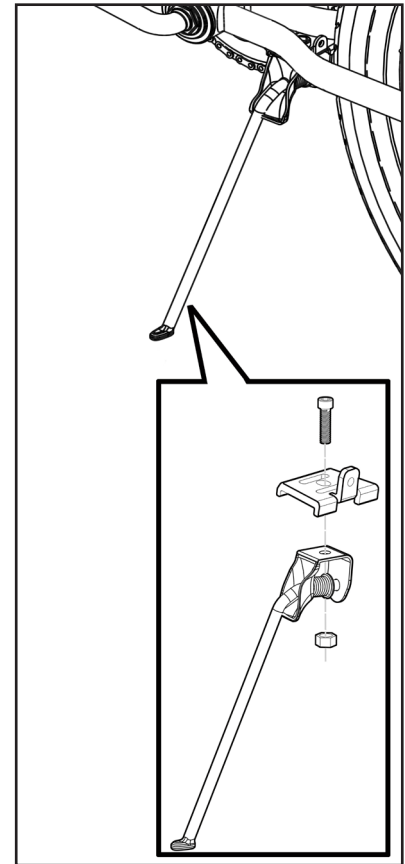

Figure 39
If the kickstand is not mounted to your bicycle, place the bicycle in an upright position against a wall or have someone hold it upright. Place the kickstand in the bracket mounted on the frame and use a pair of (E) Standard Slip Joint Pliers to secure the fixing bolt to keep the kickstand in place. Be sure to tighten the fixing bolt securely. Some kickstands use a top plate to locate the bolt and secure the kickstand using a fixing bolt. Be sure to tighten the axle nut. The guard will sit between the frame and the axle nut (see Figure 39).